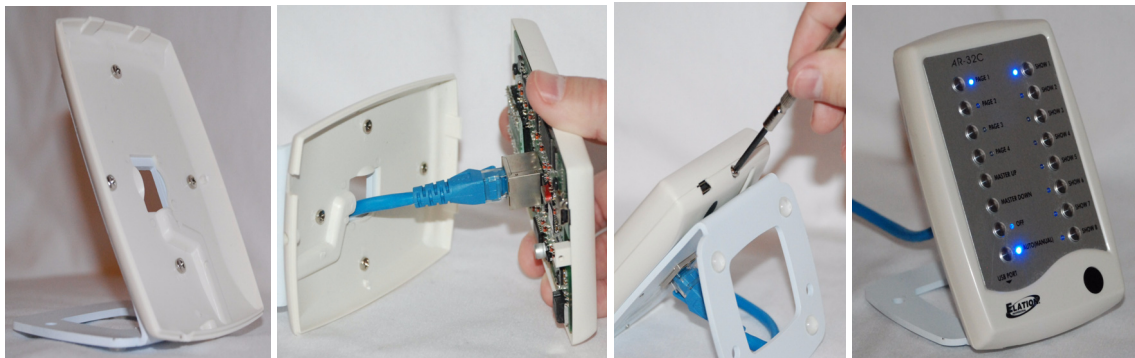

Figure 6
2. Using the four pre-drilled holes, connect the back cover to the included desktop stand (Figure 6).